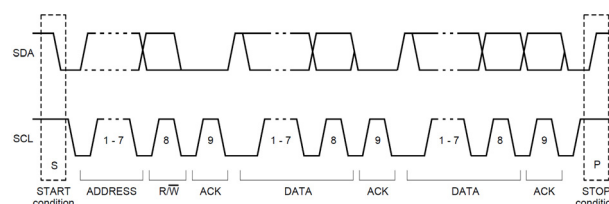

Figure 11: Complete Data Transfer
Data transfers follow the format shown in Figure 11. After the start condition (S), a slave address is sent. This address is 7 bits long followed by an eighth bit data direction bit (R/W). A zero indicates a transmission (write), and a one indicates a request for data (read). A data transfer is always terminated by a stop condition (P) generated by the master. However, if a master still wishes to communicate on the bus, it can generate a repeated start condition (Sr) and address another slave without first generating a stop condition.